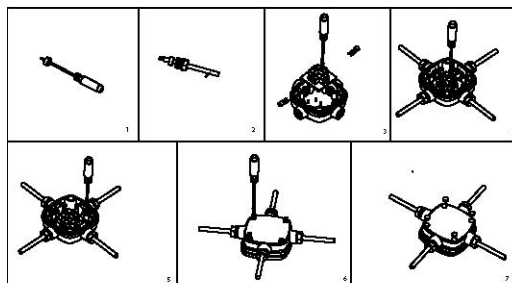

Figure 2
6. For multiple connections use SI-LITE JBOX1 (IP68 junction box) see fig 2.